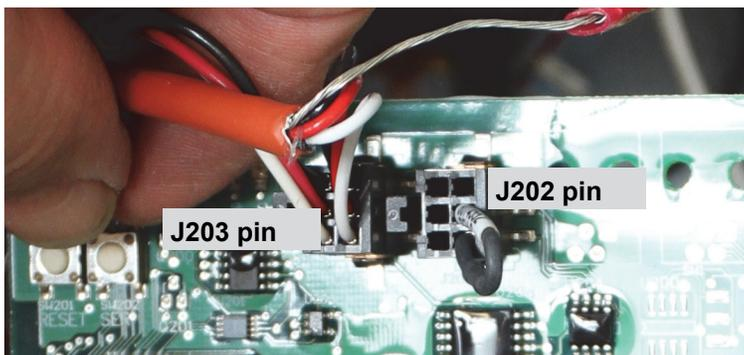

Figure 3: Remove CAN cable from the J203 plug and the terminator from the J202 plug.
8. Remove orange CAN and related gray wiring plug from the LON board pin J203. Remove the CAN terminator from pin J202. **See Figures 3, 5.**